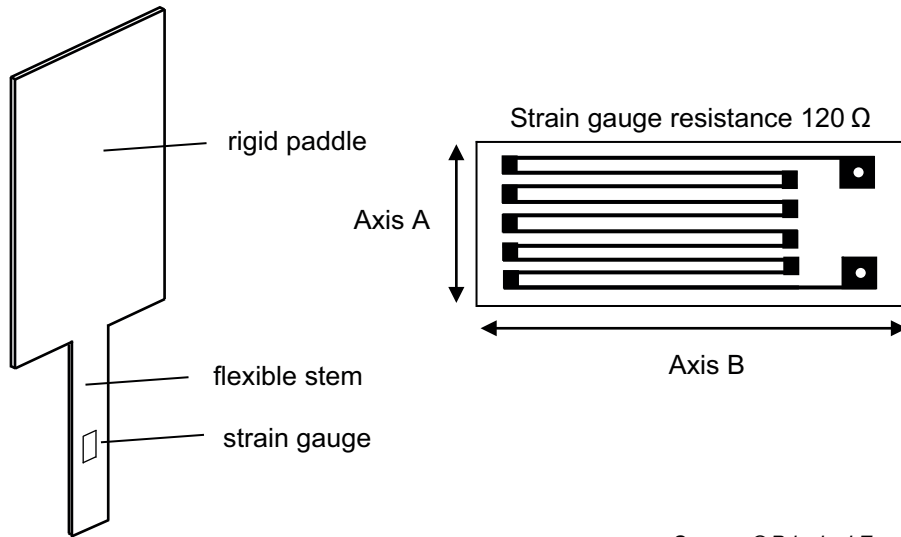

Fig. 8
- (e) A wind speed indicator is to be added to the wind direction system in **Fig. 7**. It has been proposed that a strain gauge could be used to detect the deflection of a flexible stem that will bend according to wind speed. **Fig. 8** shows how a strain gauge is fixed to the flexible stem which in turn will be deflected by the force of the wind acting on a rigid paddle. The wind speed can then be displayed on an eight bar LED bar array display. The strain gauge is shown in **Fig. 8** and has a resistance of $120\ \Omega$. Under test conditions the resistance of the strain gauge increased by 1.25% at the maximum wind speed.
- (i) Calculate the resistance of the strain gauge shown in **Fig. 8** when experiencing maximum wind speed.